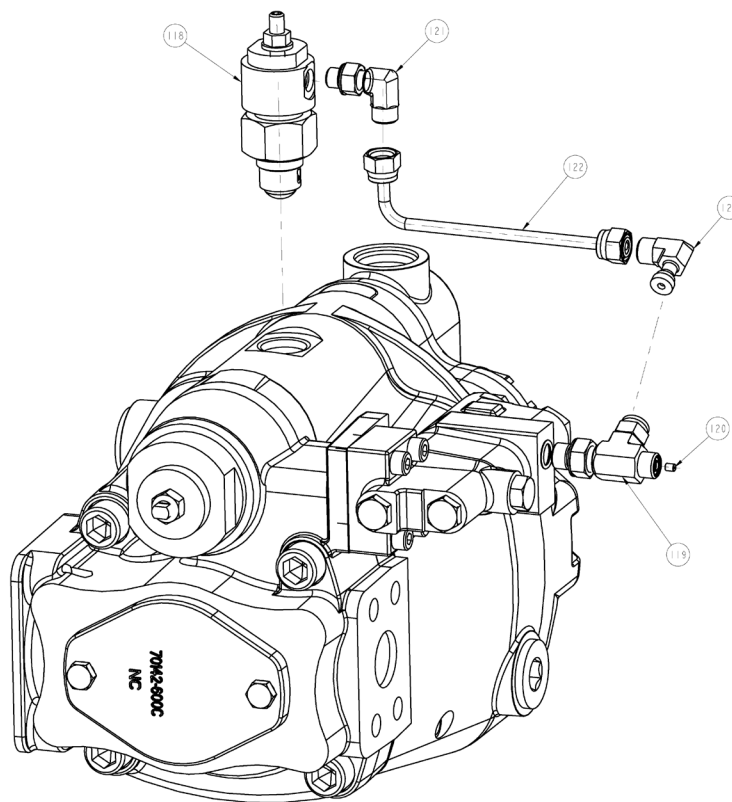
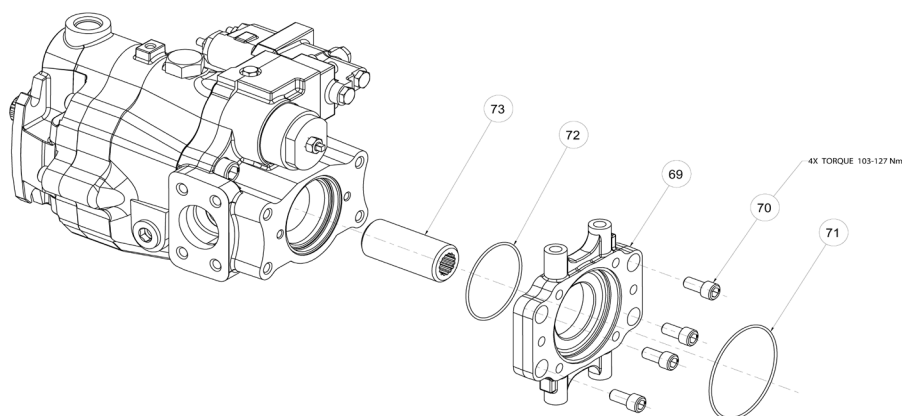

Figure 27
Figure 28
1. Remove the O-ring (Figure 27, 71).
2. Remove the coupling (Figure 27, 73).
3. Remove the screws (Figure 28, 70) (there are 3 screws for PVM45 and 4 screws for PVM57-141) and take off the series pump flange (Figure 27, 69).
4. Remove the O-ring (Figure 27, 72).
Apply lubricating grease to the O-ring (Figure 27, 72) and then fit it onto the series pump flange (Figure 27, 69).
Install the screws (there are 3 screws for PVM45 and 4 screws for PVM57-141), and fix the series pump flange (Figure 27, 69) to the end cover. Tighten the screws of the PVM45 series with a torque of 63-77 Nm and tighten the screws of the PVM57-141 series with a torque of 103-127 Nm.
Apply lubricating grease to the O-ring (Figure 27, 71) and then put it over the series pump flange (Figure 27, 69).
Insert the coupling (Figure 27, 73).